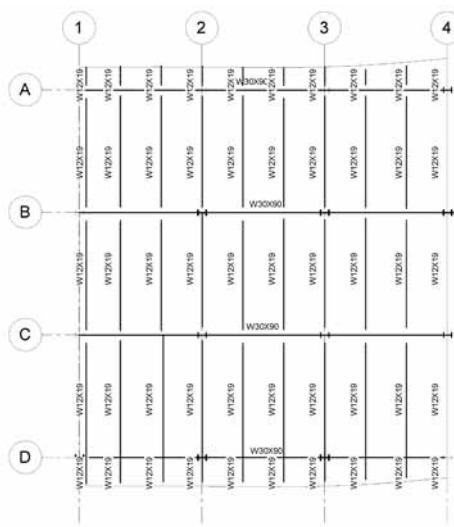

Figure 11 -Roof Framing Plan
- Edit the in place mass family element and open the properties window and select the visibility graphics overrides. Select only fine and medium. This will allow the in place family extruded view to only show in the medium and fine detail views. The final roof plan should like Figure 11.